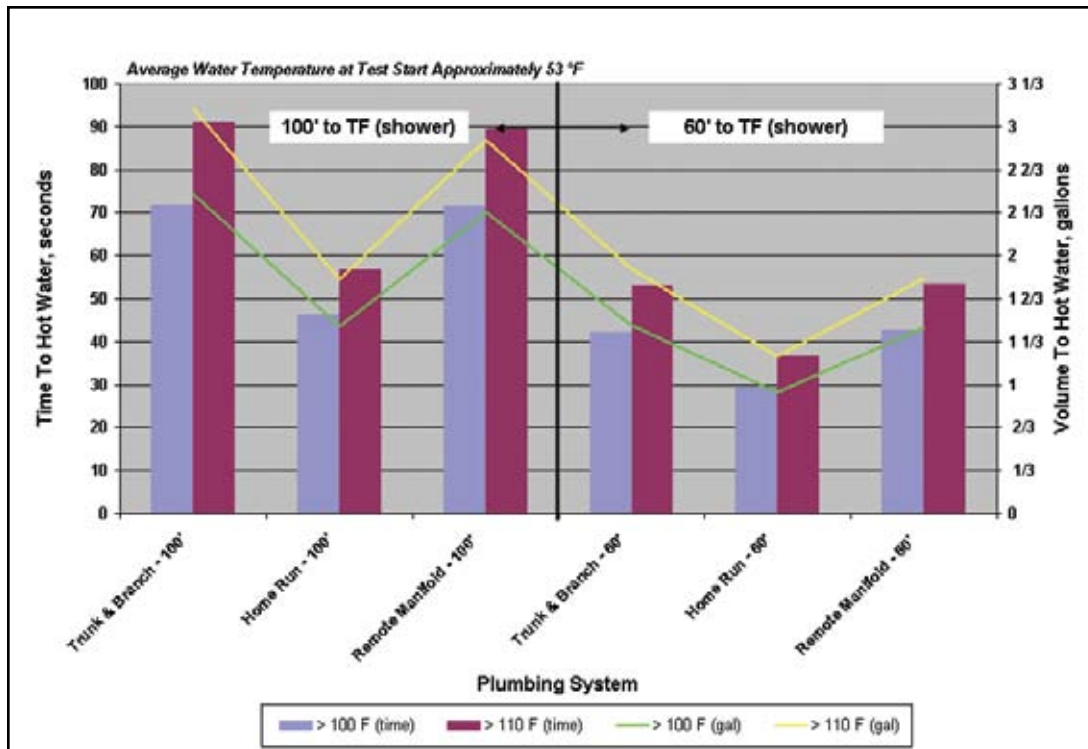

Figure 8.6 – Comparison of Hot Water Delivery Time
Tests were also performed on each of the three PEX system designs to compare the time it takes for hot water to be delivered to the test fixture (TF). Figure 8.6 shows the results of delivering hot water to the shower fixture after the pipes were flushed with cold (city) water. The results were normalized to keep the flow rates and temperature from the hot water tank constant for all systems.